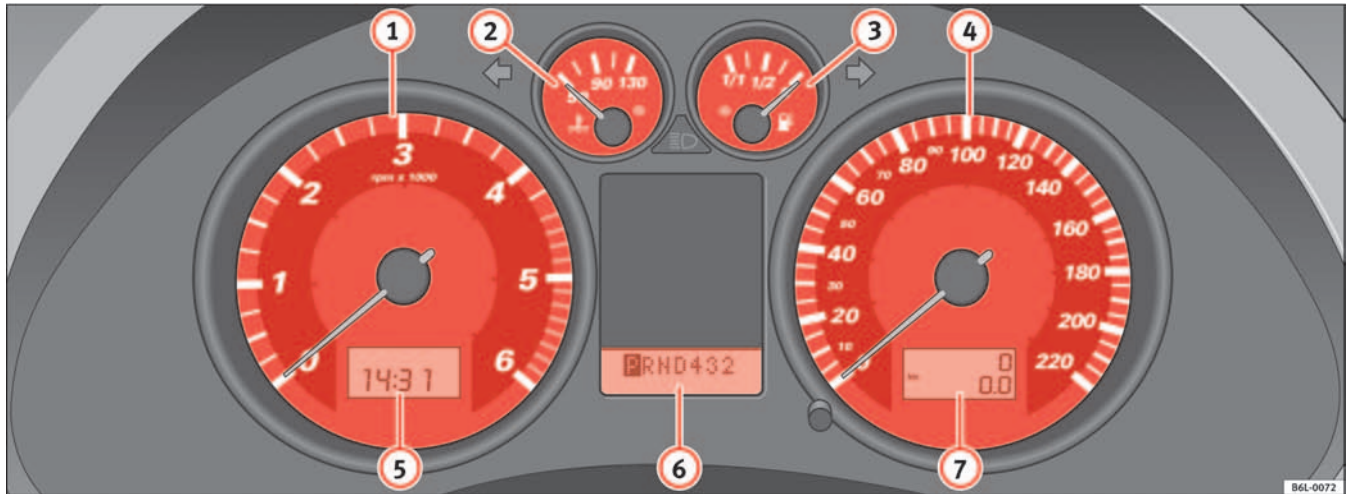

Fig. 32 Detail of the dash panel: Instruments
The start of the red zone on the dial ⇒ page 52, fig. 32 ④ indicates the maximum engine speed which may be used briefly when the engine is warm and after it has been run in properly. However, it is advisable to change up a gear or move the selector lever to D (or lift your foot off the accelerator) before the needle reaches the red zone.
- Turn the setting knob ⇒ page 52, fig. 32  anti-clockwise to the stop to set the hour. If the knob is turned briefly anti-clockwise the clock will advance one hour further.